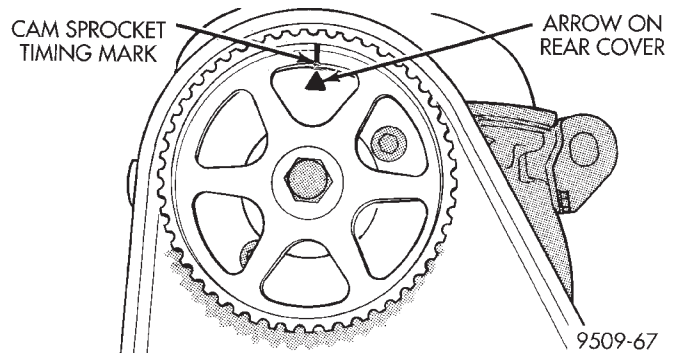

Fig. 81 Camshaft Timing Mark
(2) Set camshaft to TDC by aligning mark on sprocket with the arrow on the rear of timing belt cover (Fig. 81).